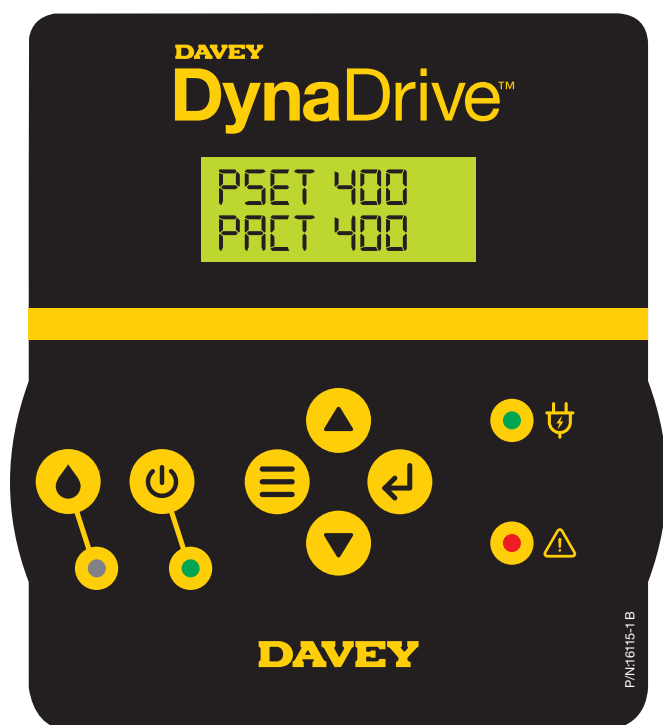

Figure 6.3
- Pushing the  **Automatic on / manual off button** will turn on the pump and it will continue to pump water until set pressure is achieved, see figure 6.3;